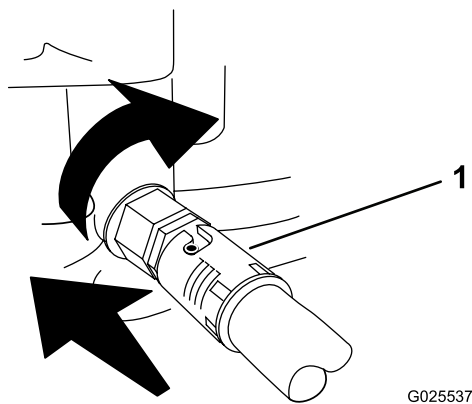

Figure 3
**Note:** To close the oil-drain valve, push it in and turn it clockwise (Figure 3).